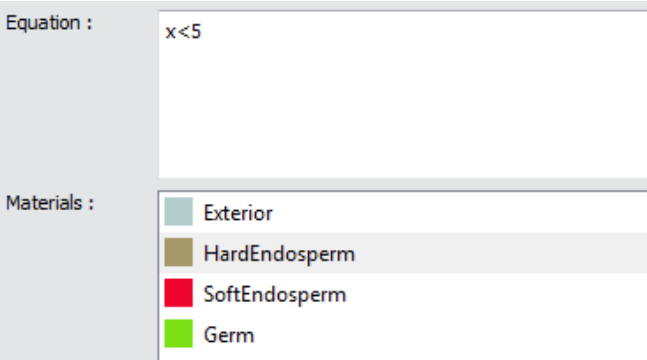

Figure 22.27: Equation Mode
- *Equation*: The equation mode lets you select any element of a given material based on a given equation (Figure 22.27). The vertex components are accessed through X, Y, and Z variables. A triangle is selected if all three vertex positions match the equation condition. For example, the "x < 5" will select all triangles in which the X component of all three vertices is less than 5.